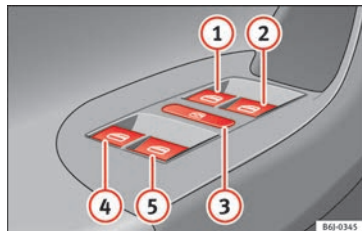

Fig. 132 Detail of the driver door: controls for the front and rear windows (5-door vehicles with front and rear electric windows).
Buttons »»» **Fig. 132** ①, ②, ④ and ⑤ have two positions for opening windows and two for closing them. This makes it easier to open and close windows to the desired position.